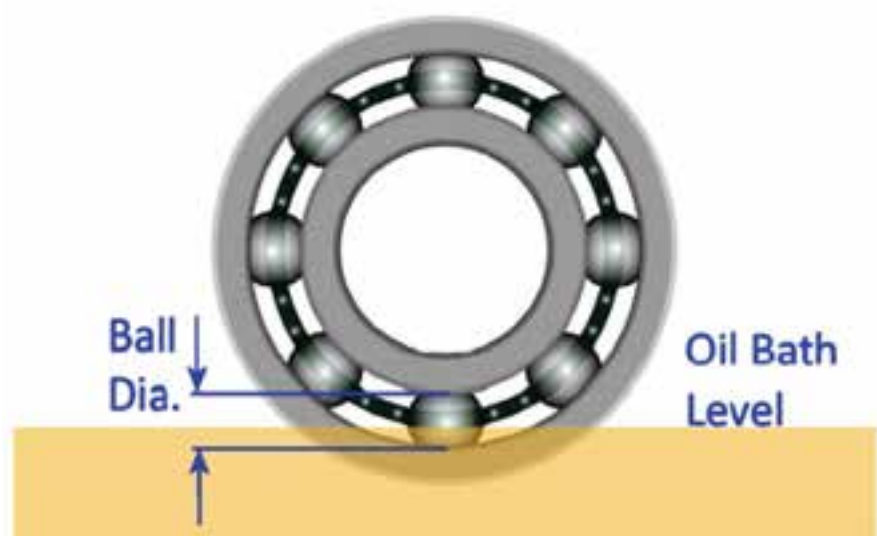

Figure 2: Oil bath lubrication showing a typical oil level
The simplest method of oil lubrication is the oil bath. The oil, which is picked up by the rotating components of the bearing, is distributed within the bearing and then flows back to a sump in the housing. Typically, the oil level should almost reach the centre of the lowest rolling element when the bearing is stationary. The bearing rolling elements pass or “plough” through a portion of this oil sump as the shaft revolves (Figure 2). For smaller bearing arrangements and slower speeds oil bath lubrication arrangements are commonly employed. Oil bath lubrication is feasible if too much frictional heat is not generated by the ploughing action of rolling elements at excessively high speeds. Because heat reduces oil film strength and greatly accelerates the rate at which oil oxidizes, the oil bath lube method is avoided on process pumps whenever DN , the inches of shaft diameter (D) multiplied by shaft revolutions-per-minute (N) exceeds 6,000. The DN limit of 6,000 is an experience-based value that